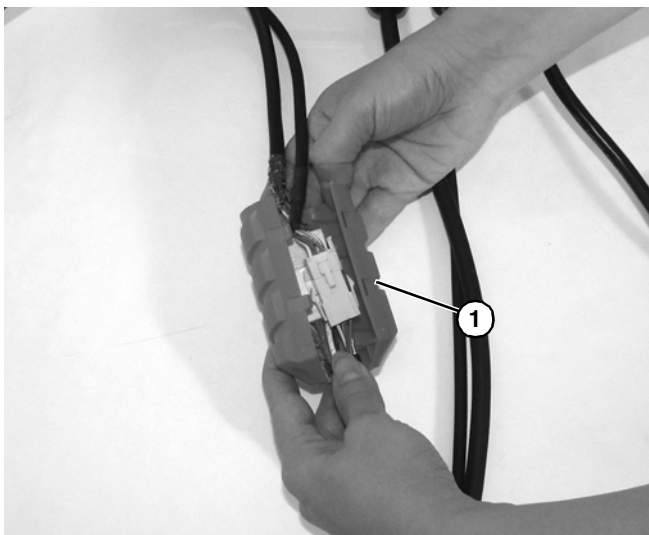

Figure 32
3. Open inner cord cover (Figure 32, item 1).